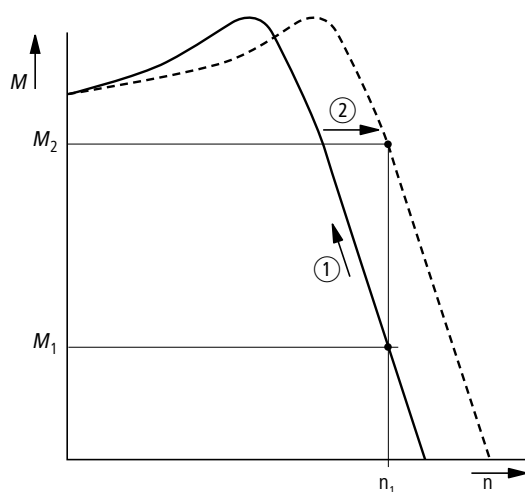

Figure 69: Speed behavior with slip compensation
The simple illustration shows that, as the load torque increases (①), the resulting speed reduction is compensated by an increase in the output frequency (②) (→ Figure 69).